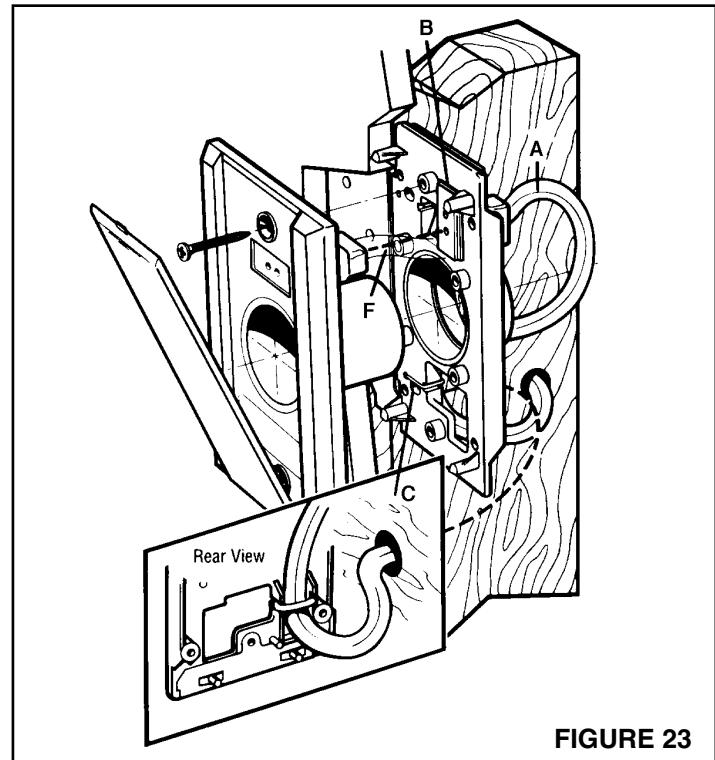

FIGURE 23
See Figure 23.
1. See Figure 23. Fasten the mounting plate to a stud within three studs (48") of an electrical outlet box. Measure and mark the wire 10" from the plug (A). Feed the wire through the top hole in the mounting plate (just above the circular opening). Snap the molded plug into the mounting plate as pictured (B). This will keep it secure and out of harm's way during drywalling and finishing. Line up the wire at the previously measured 10" mark with the strain of relief channel on the back of the mounting plate. Secure it in place with the supplied wire tie (C).
2. Run the inlet wire to the adjacent electric box. If you must run wire through a stud, drill directly through the center of the stud (D).